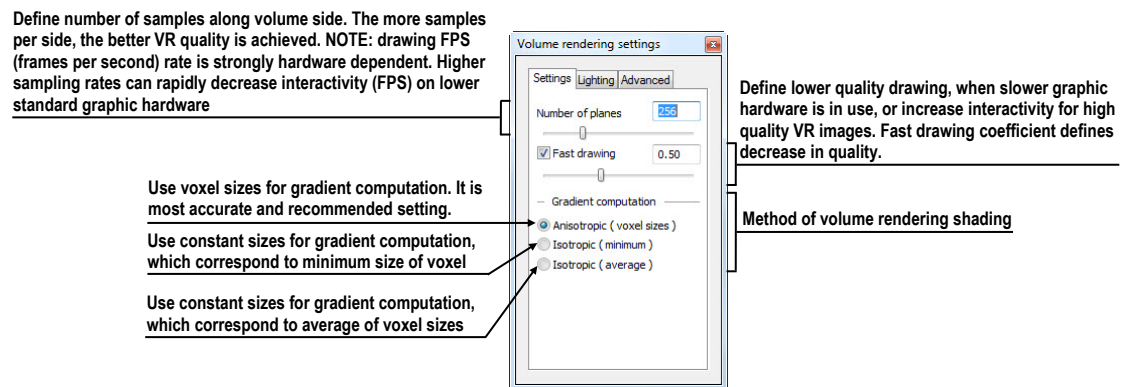

Figure 226 - Volume rendering settings, the first tab
- basic volume rendering quality in the first tab (see Figure 226)